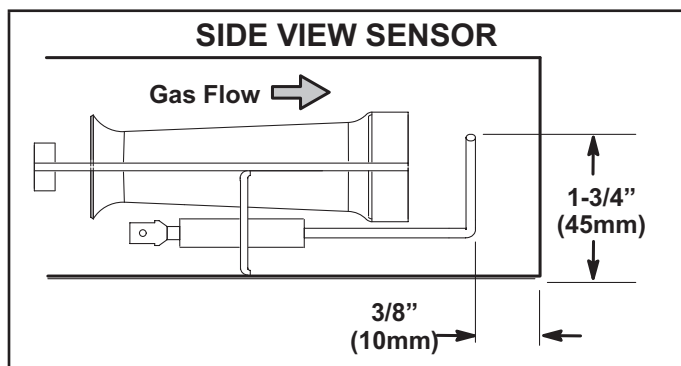
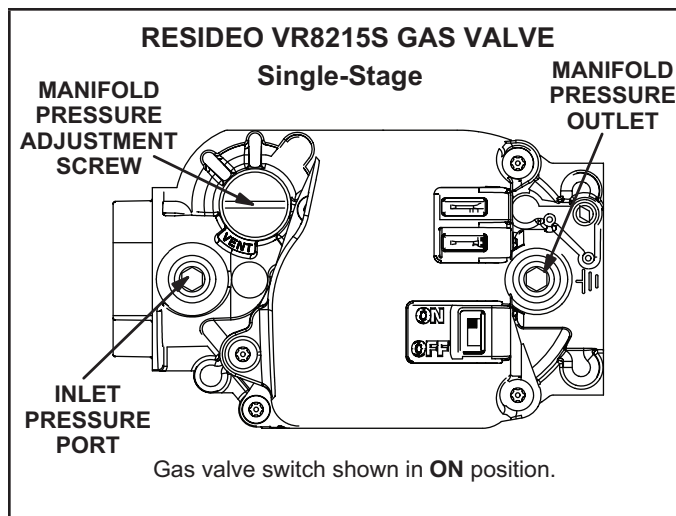
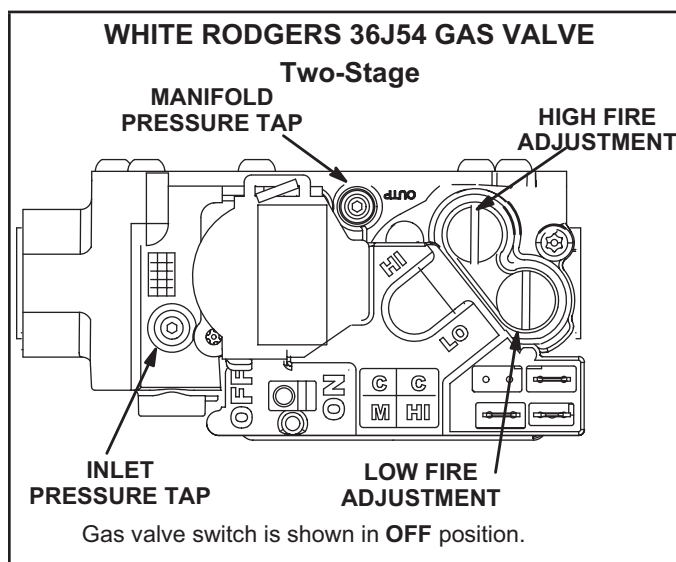

FIGURE 20
FIGURE 21
FIGURE 22
Units are equipped with a single stage gas valve (figure 20) or two stage gas valve (figure 21). On a call for first stage heat (low fire), the valve is energized by the ignition control simultaneously with the spark electrode. On a call for second stage heat (high fire), the second stage operator is energized directly from A3. A manual shut-off knob is provided on the valve for shut-off. Manual shut-off knob immediately closes both stages without delay. On both valves first stage (low fire) is quick opening (on and off in less than 3 seconds).
A flame sensor (FIGURE 20) is located under the left most side burner. The sensor is mounted through a hole in the burner support and the tip protrudes into the flame envelope of the left most burner. The sensor assembly is fastened to burner supports and can be removed for service without removing any part of the burners.
Gas Valve Operation (FIGURE 21 and FIGURE 22)
- 5 - Switch gas valve to OFF. See FIGURE 21 or FIGURE 22.
- 6 - Wait five (5) minutes to clear out any gas. If you then smell gas, **STOP!** Immediately call your gas supplier from a neighbor's phone. Follow the gas supplier's instructions. If you do not smell gas, go to the next step.
- 7 - Switch gas valve lever to **ON**. See FIGURE 21 or FIGURE 22.